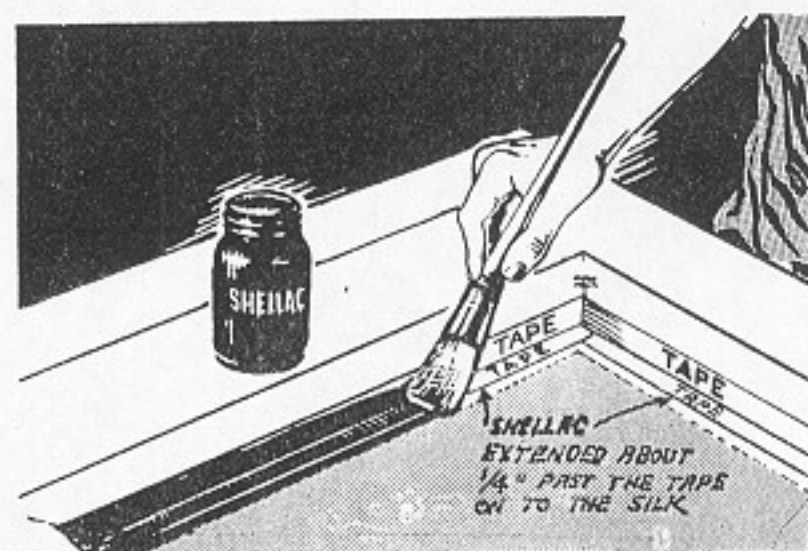

Fig. 37. Shellac Over the Tape, Covering About 1/4" of Silk
8. Allow the taped parts of the screen to dry for several hours. Apply a coat of shellac to all of the taped areas inside and outside the screen. Let the shellac extend about one-fourth of an inch past the tape onto the silk screen, Fig. 37.